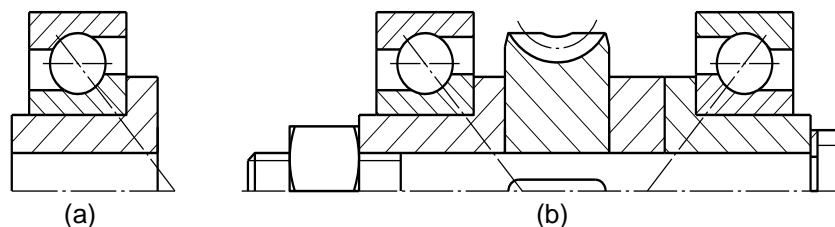

Fig. 3.1: a) Mounting of bearings on bushes
A) actuator without safety clutch (FS):
- fit the bearings (it. 44) on the bushes (it. 7), as indicated on Fig. 3.1.a,
- fit the bearings already on the bushes, the wormwheel (it. 3), the spacer (it. 8) and the key (it. 39) on acme/ball screw, as indicated on the corresponding cross-section drawing; carry some threadlock over the nut and screw end right-hand metric thread and tighten the nut (pos. 42). For bearings mounting direction see Fig. 3.1.b.
B) actuator with safety clutch (FS):
- fit one bearing (it. 44) on the bush (it. 7), as indicated on Fig. 3.1.a, and the other bearing on the bush (it. 9),
- fit the bearings already on the bushes and the safety clutch assembly (the wormwheel (it. 4) on the bush (it. 10), the bush (it. 11), the disk-springs (it. 21) and the spacer (it. 12)) on acme/ball screw, as indicated on the corresponding cross-section drawing; carry some threadlock over the nut and screw end right-hand metric thread and tighten the nut (pos. 42). For bearings mounting direction see Fig. 3.1.b.